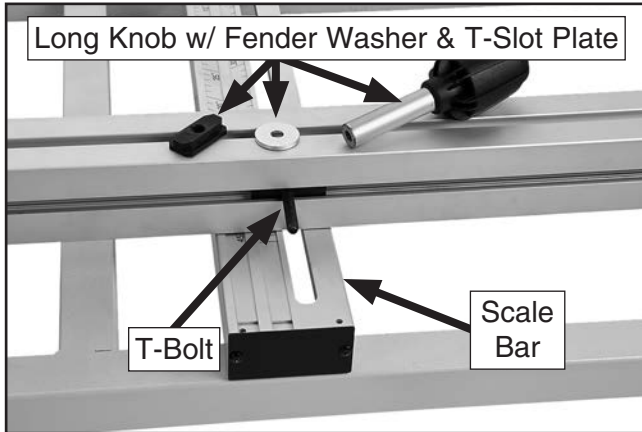

Figure 47. Crosscut fence hardware in the middle.
- Insert M8-1.25 x 35 T-bolt into T-slot (see **Figure 47**).
- Align T-slot bolt with slot in pre-installed scale bar (see **Figure 47**).